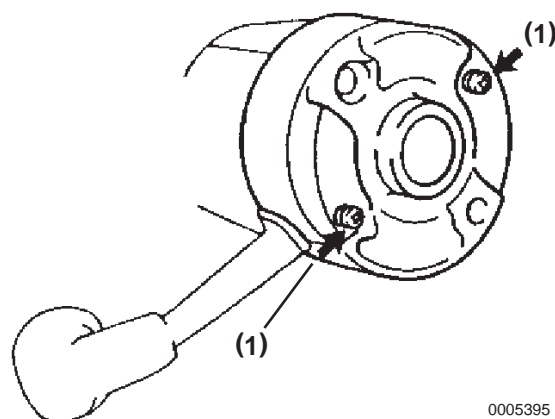

Figure 10-8
6. Remove the 2 screws (**Figure 10-8, (1)**) and end cover from the field frame.